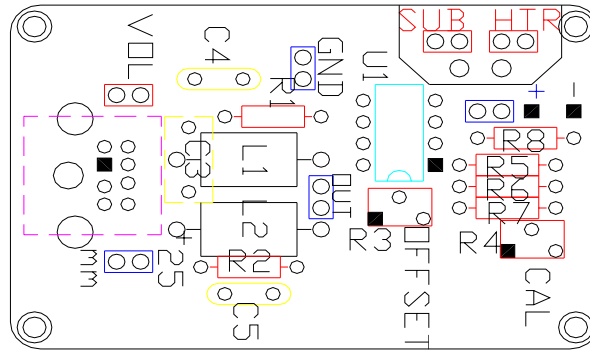

Figure 4
- A. Remove the screws holding the calorimeter's ID tag and remove the plate to expose the circuit board as shown in Figure 4.
- E. Remove the screws holding the interface module's ID tag and remove the plate to expose the circuit board. Refer to Figure 4.
- A. Connect a DVM to the white jacks of the calorimeter. Refer to Figure 4.